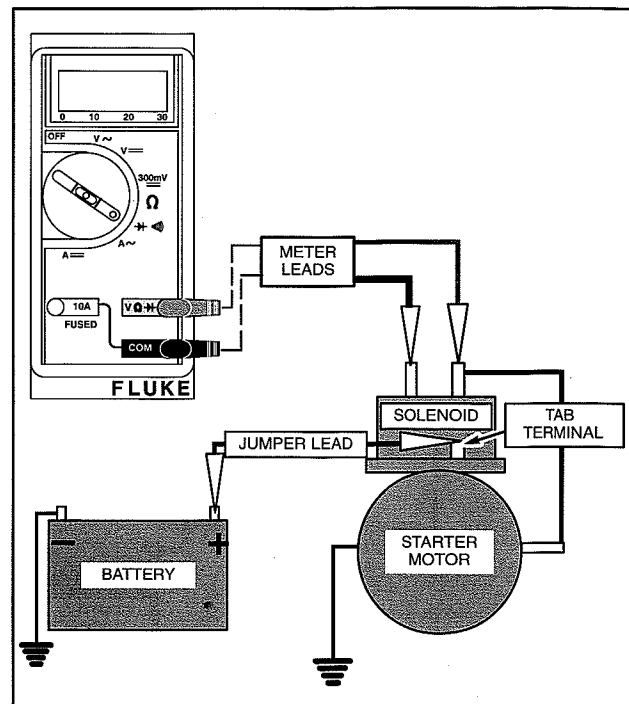

Fig. 35 – Testing Solenoid
9. Attach one meter test lead to each stud terminal on solenoid, Fig. 35.